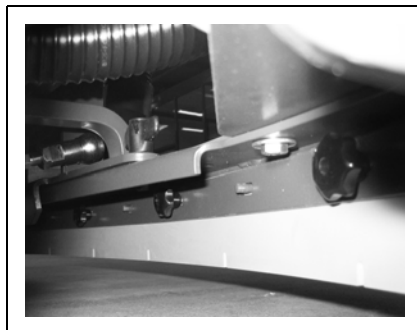

Fig. 36
The squeegee is also equipped with front sealing and support strips and clamping rail (Fig. 36).
6. Disassemble the front sealing strip (Fig. 36) in the same way.